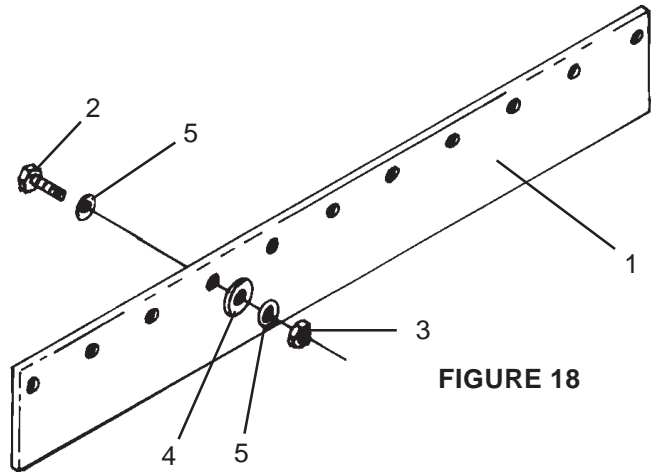

FIGURE 18
Attach Deflector (1) to right and left wing deck using 3/8" x 1-1/2" Bolts (2), Flatwasher (5), Woodwasher (4), and Locknut (3) as shown in **Figure 18**.